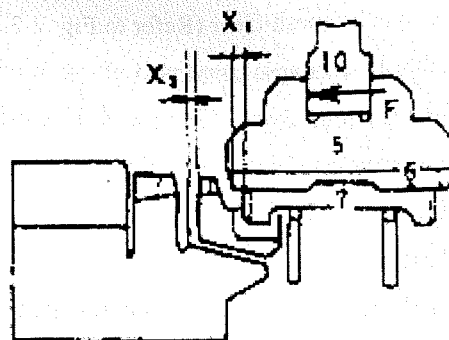

Fig 2-4
Operate the synchromesh gear, and it can be divided into under-mentioned 6 steps from neutral position to completion of engagement, described in Figs 2-4~2-10.
Step 1: (Refer to Fig 2-4)